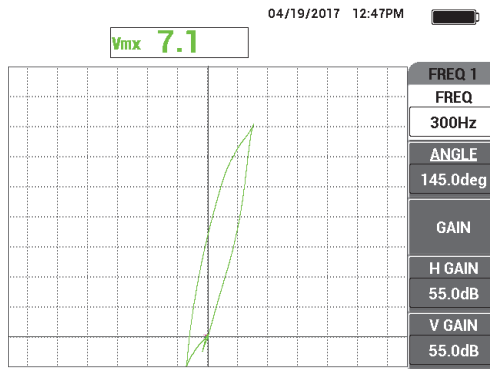

Figure 5-235 The scan signal of the 60 % wall-loss groove
2. Slowly scan the 60 % wall-loss flaw only, pressing the ERASE foot switch as required to clear the screen. When the flaw signal is visible on the NORTEC 600 screen, press the FREEZE key (❄) [see Figure 5-235 on page 295].